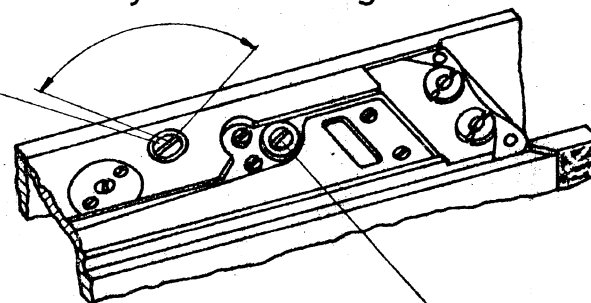
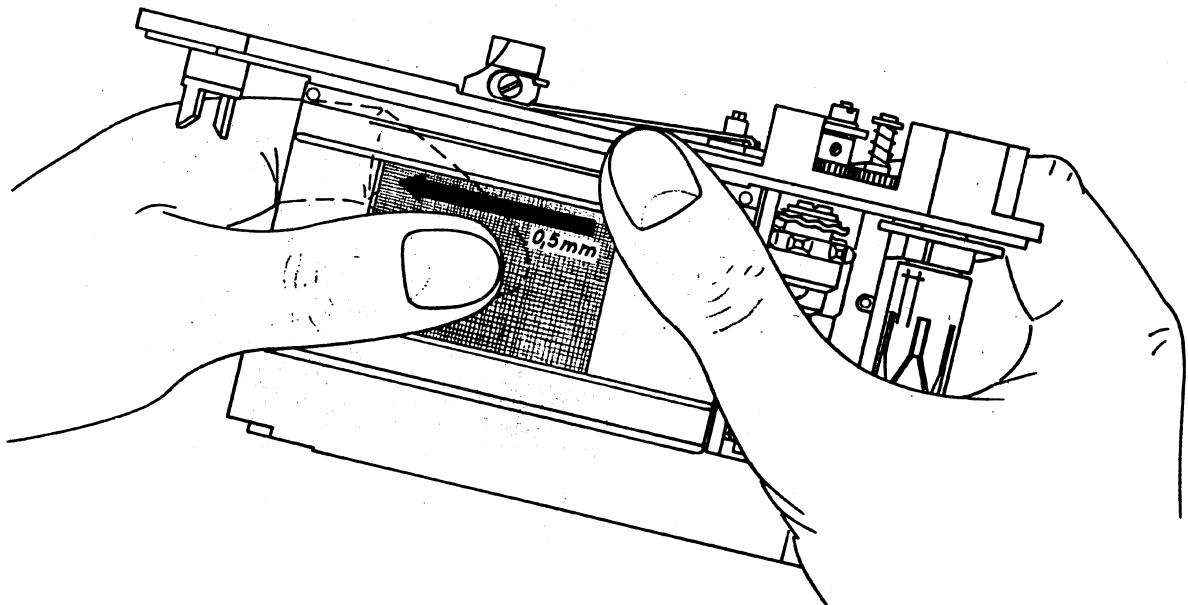

Fig. 7.1
Fig. 8.1
If this distance needs correction, adjust the setting screw 15-10.21-6 of the first shutter blind brake (see fig. 7.1) by turning to the left or right in small stages with the 4 mm dia. screw driver. This must be done with the Leica shutter tensioned. Carry on until the blind runs past the frame edge by the required 1 to 2 mm. Check after every adjustment by releasing the first shutter blind.
Tension the Leica shutter. Set the shutter speed dial to $1/50$ (4) second. Press the shutter release button. When the shutter has run down, it should still be possible to pull the second blind with the thumb and index finger through 0.5 mm in the direction of its travel (see fig. 8.1). If any adjustment is required, turn the setting screw 15-10.21-7 of the second shutter blind brake (see fig. 7.1) to the left or right with the 4 mm dia. screw driver until the above movement is as specified. Check after every adjustment of the setting screw by pulling on the second shutter blind as described above.